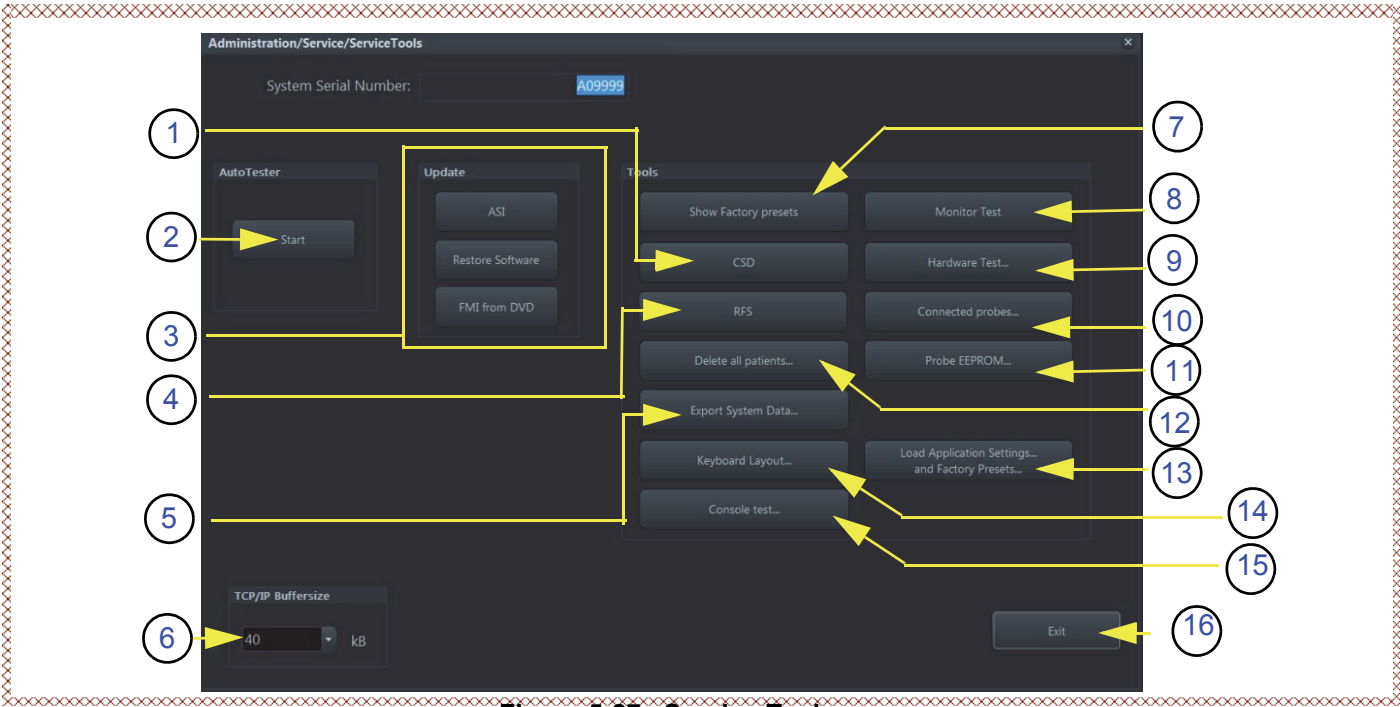

Figure 5-27 Service Tools page
- 1.) Select the LOAD APPLICATION SETTINGS button on the “Service Tools” page (Figure 5-27 on page 5-54).
- 1.) Click the **Probe EEPROM** button on the "Service Tools" page (see Section Figure 5-27 "Service Tools page" on page 5-54
- 2.) Check and/or choose correct probe name from the pull-down menu (1).